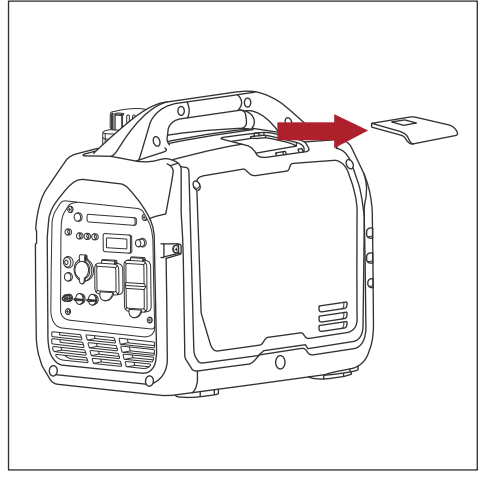

Fig.24
- Slide the spark plug access cover off the housing (see **Fig.24**).